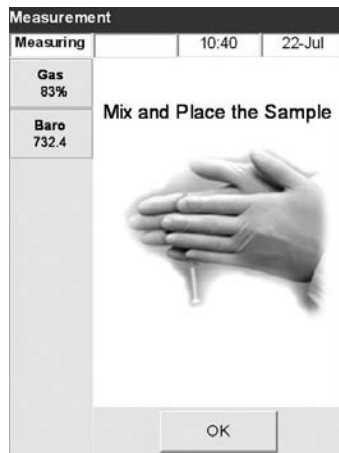

Fig. 5-8 Mix and place sample
- After the successful calibration the status light will stop blinking, and the display will prompt you to mix and place the sample (Fig. 5-8). Mix the syringe sample well by rolling it between the palms of your hands and inverting end over end.